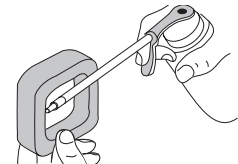

Fig. 27
4. Apply enough clean SAE 30 motor oil to lightly coat the filter (Fig. 27).